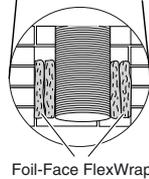

Figure 10
k.) Trim any excess FlexWrap and ArmorMesh from the top of your installation back to within 6" of where the Flex will stick through the top plate termination (see figure 10, page 13). Clamp the ArmorMesh to the Flex at this point.
e.) Insert a friction-fit Guardian Cap (figure 10), page 13.